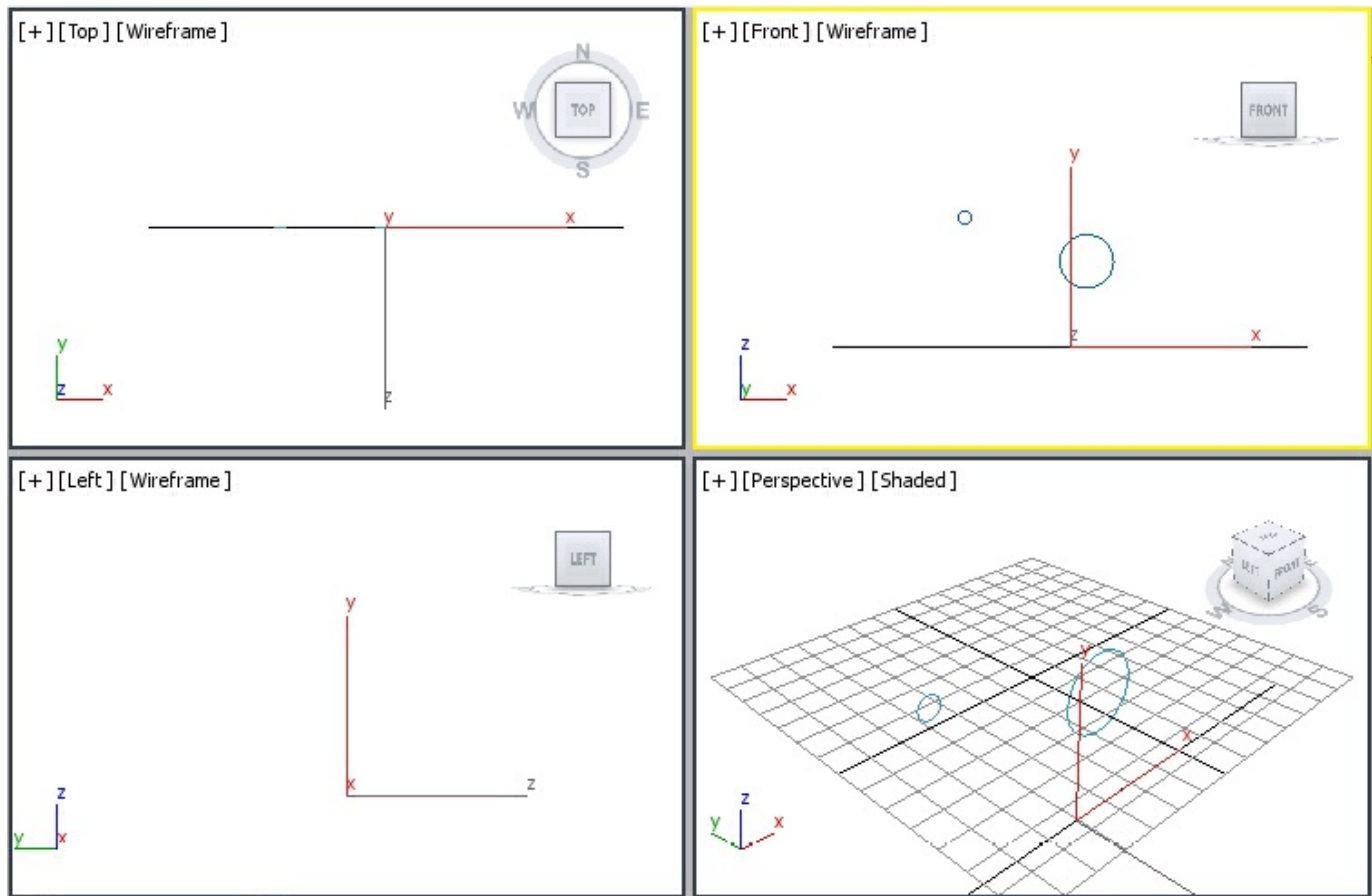

Figure 11-60 The *Circle001*, *Circle002*, and *Line001* splines in viewports
4. Create another circle in the Front viewport, refer to Figure 11-60, to use as a shape spline and set the value **16.0** in the **Radius** spinner. It is automatically named as *Circle002*.
6. Create a line in the Front viewport to use as a path spline. You can assume your own dimensions for the length of the line, refer to Figure 11-60. The line is automatically named as *Line001*.